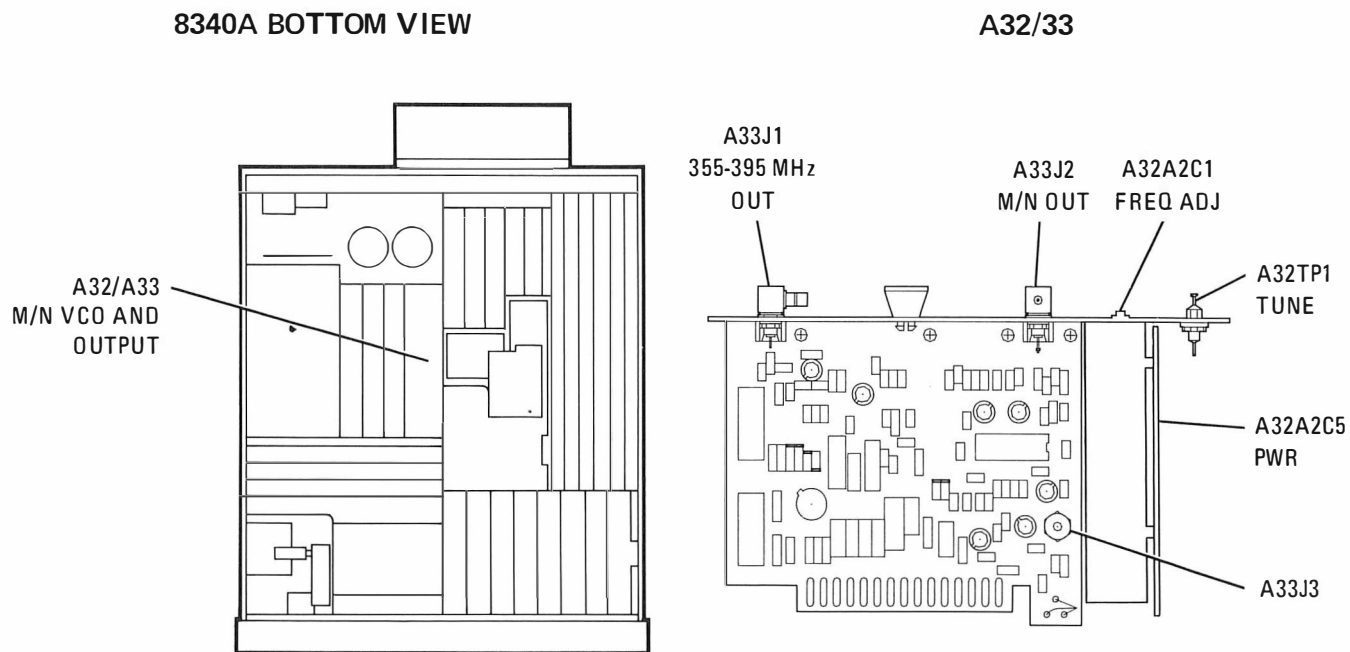

Figure 5-9. Location of M/N Loop Adjustments
6. Connect DVM to A32TP1 TUNE test point. Refer to Figure 5-9 for location of A32 assembly.
12. Disconnect A32 output cable A32A1W1 from A33J3 (Figure 5-9) and connect this cable using SMB male-to-male adapter to the input of the Spectrum Analyzer. Set 8340A LINE switch to ON and press [INSTR PRESET] pushbutton.
15. Adjust A32A2C5 PWR for a VCO output level of 0 dBm ± 2 dB as indicated on Spectrum Analyzer. Refer to Figure 5-9 for location of adjustment.